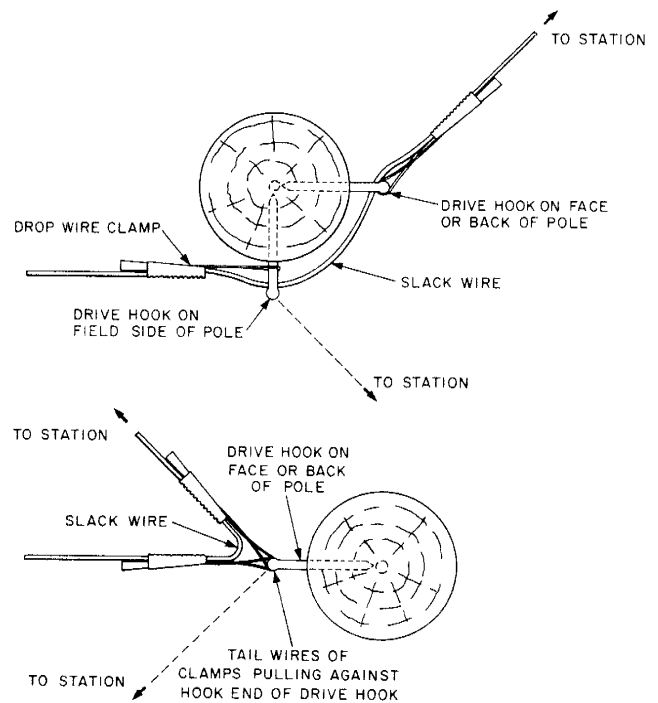

Fig. 7—Distributing Wires From Pole Without Terminal
3.08 Distribute drop wires as illustrated in Fig. 7.